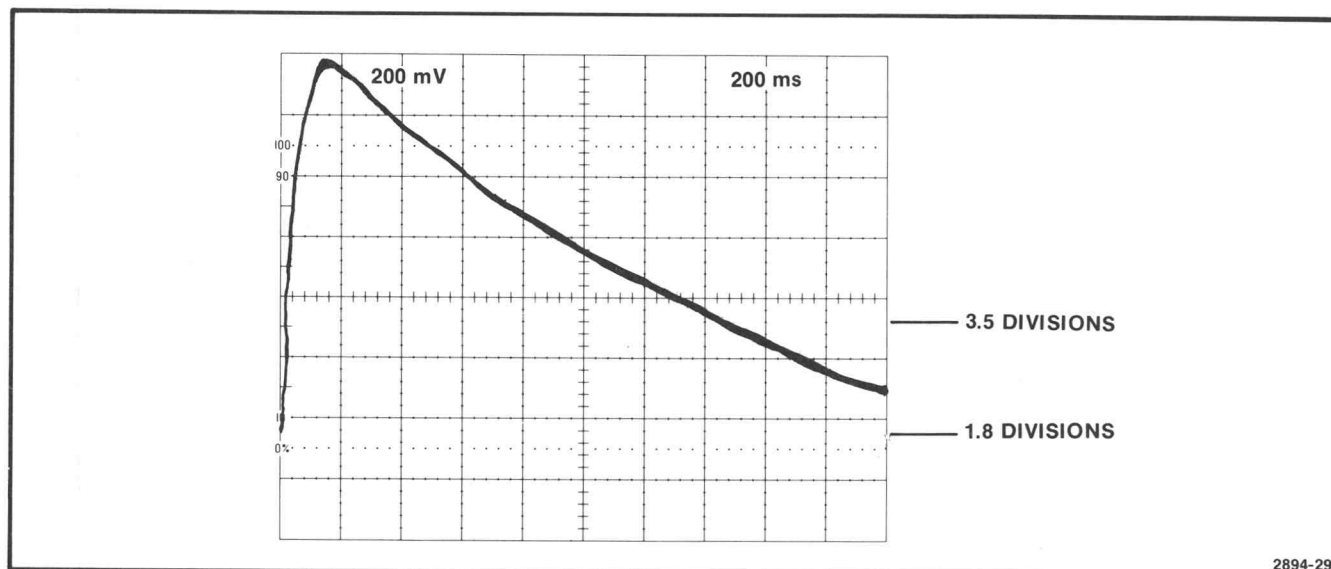

Fig. 4-21. Respiratory effort bandwidth droop waveform.
h. Set 413A RESP SIZE to obtain a test oscilloscope display amplitude of 8 divisions (see Fig. 4-21.). Waveform occurs at 10 second intervals.
i. **CHECK**—Test oscilloscope waveform crosses right edge of graticule within window shown in Fig. 4-21.